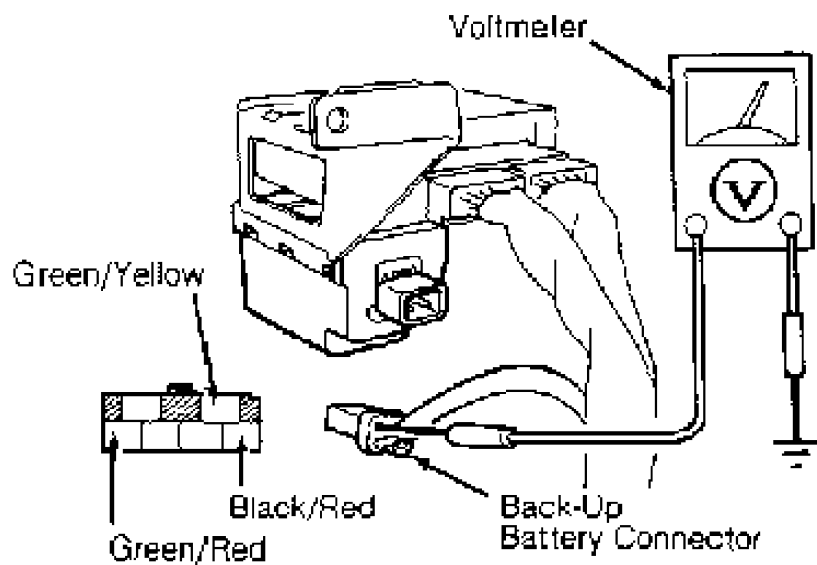

Fig. 8: Checking Back-Up Battery Connector (Miata)
3) Reconnect negative battery cable. Measure voltage between Green/Red wire of back-up battery connector and ground. See Fig. 8 or 9. If voltage is zero volt, replace wire harness assembly.